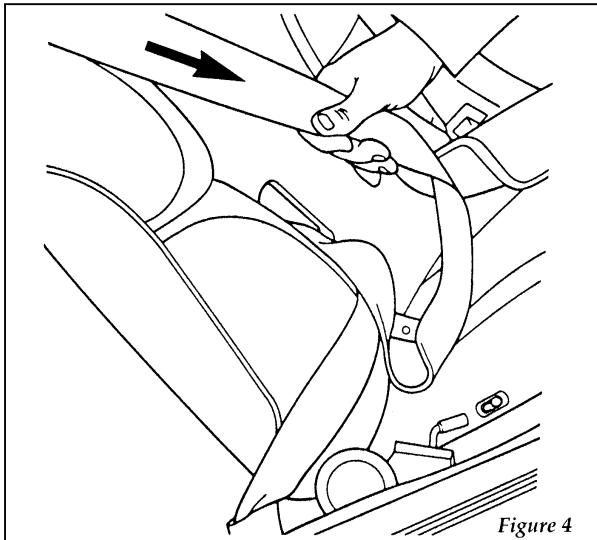

Figure 4
5. Grasp the shoulder portion of the belt and pull downward until all of the belt is extracted and a click is heard. At this time, the retractor is in the automatic locking mode (child seat restraint mode). Figure 4.